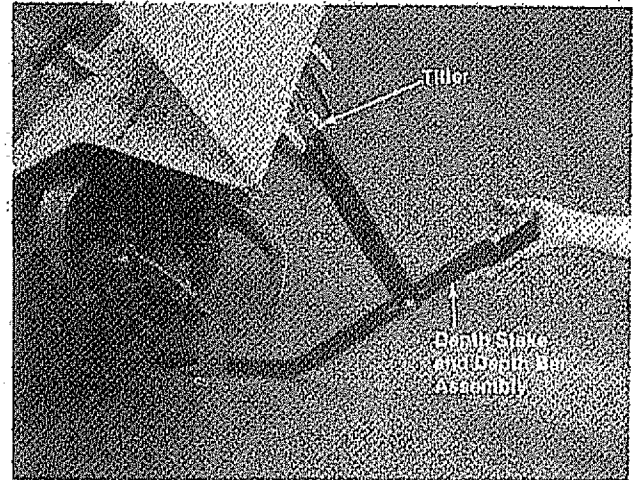

FIGURE 6.
- D. Tip the tiller forward, so it rests on counterweight. Slide depth stake up through tiller as shown in figure 6. Pull release pin on tiller to lock in place.